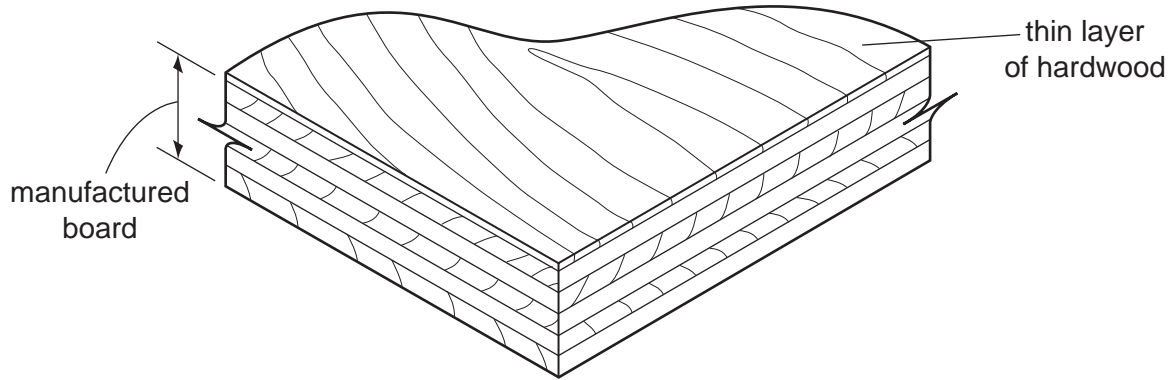

Fig. 4
- 5 Fig. 4 shows a board with a thin layer of hardwood to be used for a table top.